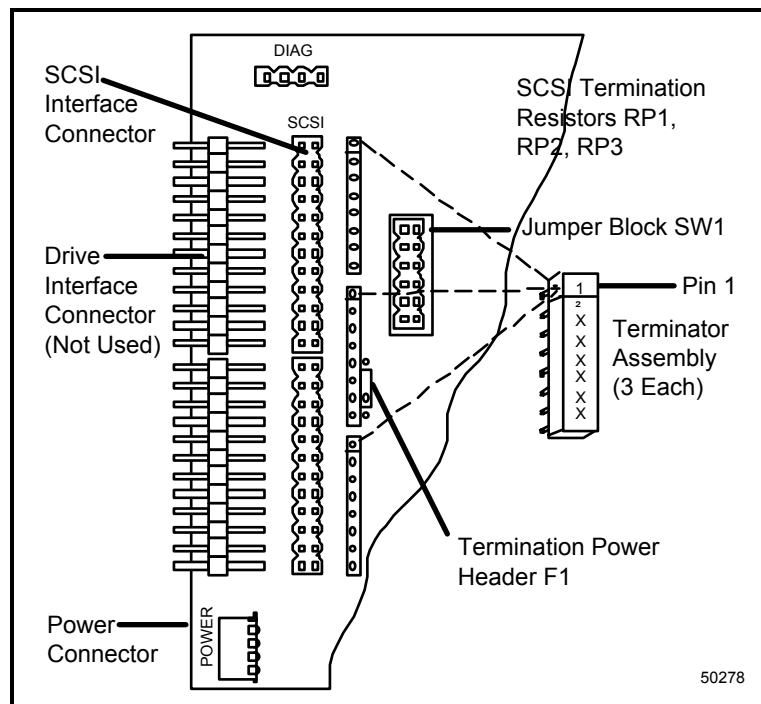

Figure 12-4 — 20 MB Iomega Cartridge Disk Termination
1. Configure the drive pinning as shown in Figure 12-4, 12-5, or 12-6. The following parameters must be configured: